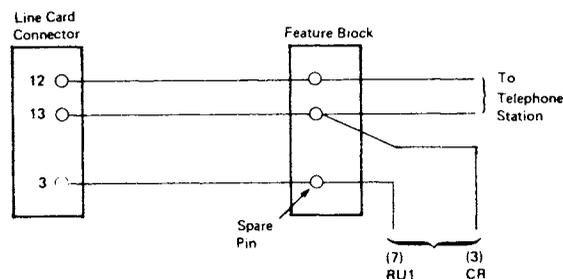

Figure 2 STC Installation
- (b) Figure 2: STC Installation